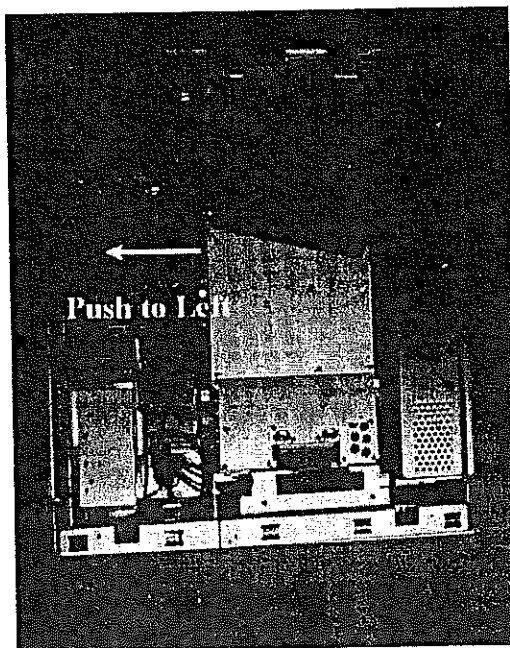

Figure 5-10 Removal of RF Block.
8. After remove screws fixed RF block, push RF block left side to remove from connector on the mother board. Then lift RF block up, referring Figure 5-10.